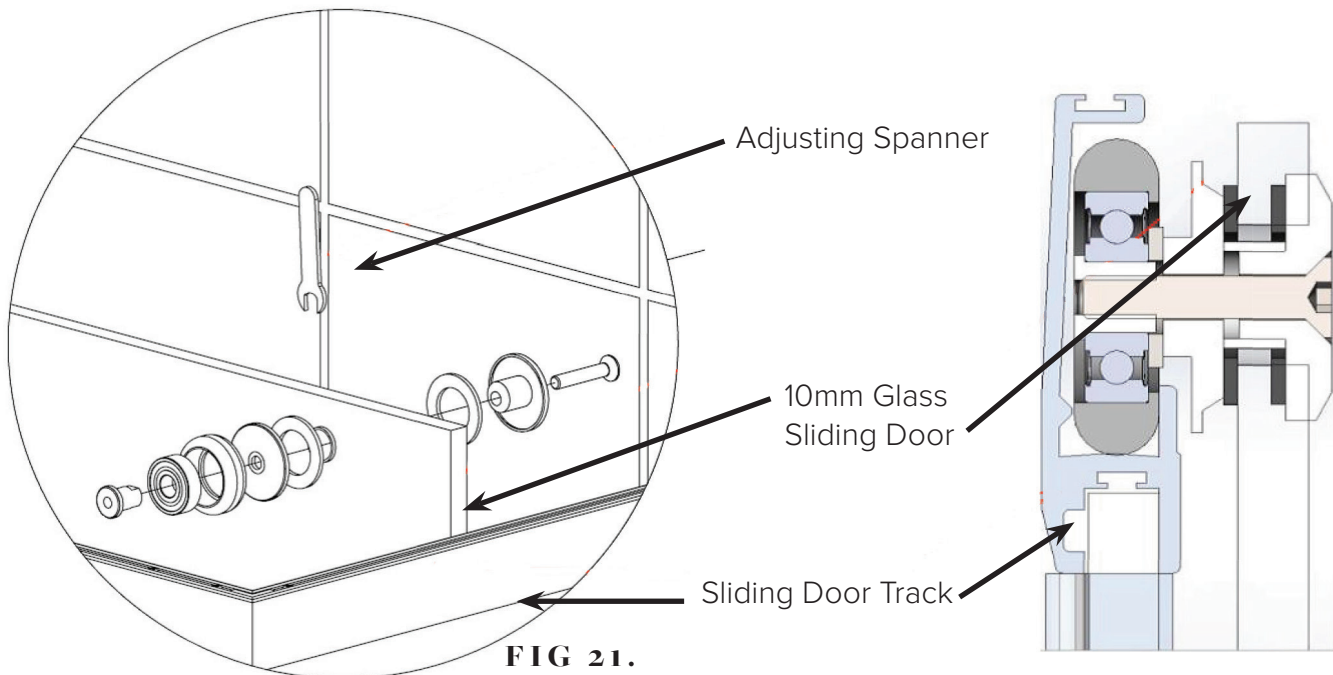

FIG 21.
- With the bush and hub pre-assembly in the opposite sides of the holes (FIG 21), place the glass sliding door into position on the wooden wedges, aligning the roller wheel holes at the top of the door as close as possible to align with the rollers in track.